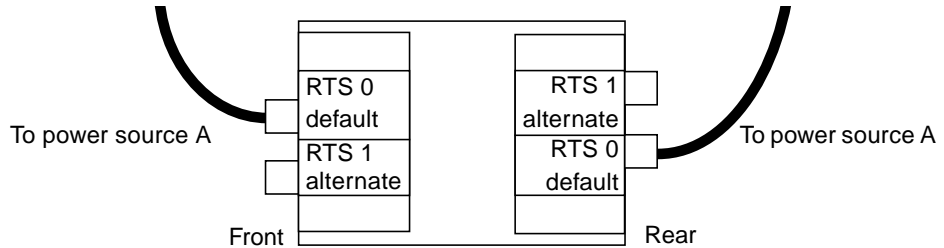

FIGURE 3-11 Two RTU Assemblies and One AC Power Sources
- In configurations with two RTU assemblies and one AC power source there will be two cables to connect, one in the front (on the left), and one in the rear of the system (on the left) (FIGURE 3-11). **Connecting the alternate RTS units to outlets that use the same power source as the default RTS units is not supported and will adversely affect reliability.**